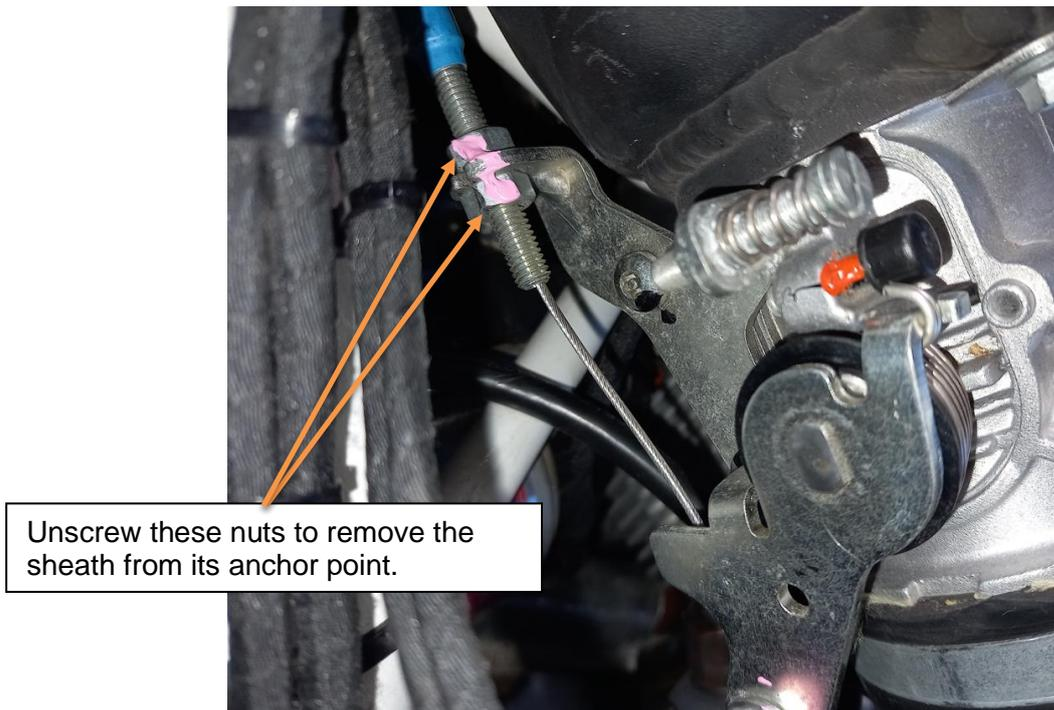

Figure 9
Step 10: In order to remove the throttle cable and sheath, it needs to be detached from the engine. To do so, unscrew the locking nuts that hold the sheath in place. Refer to Figure 9